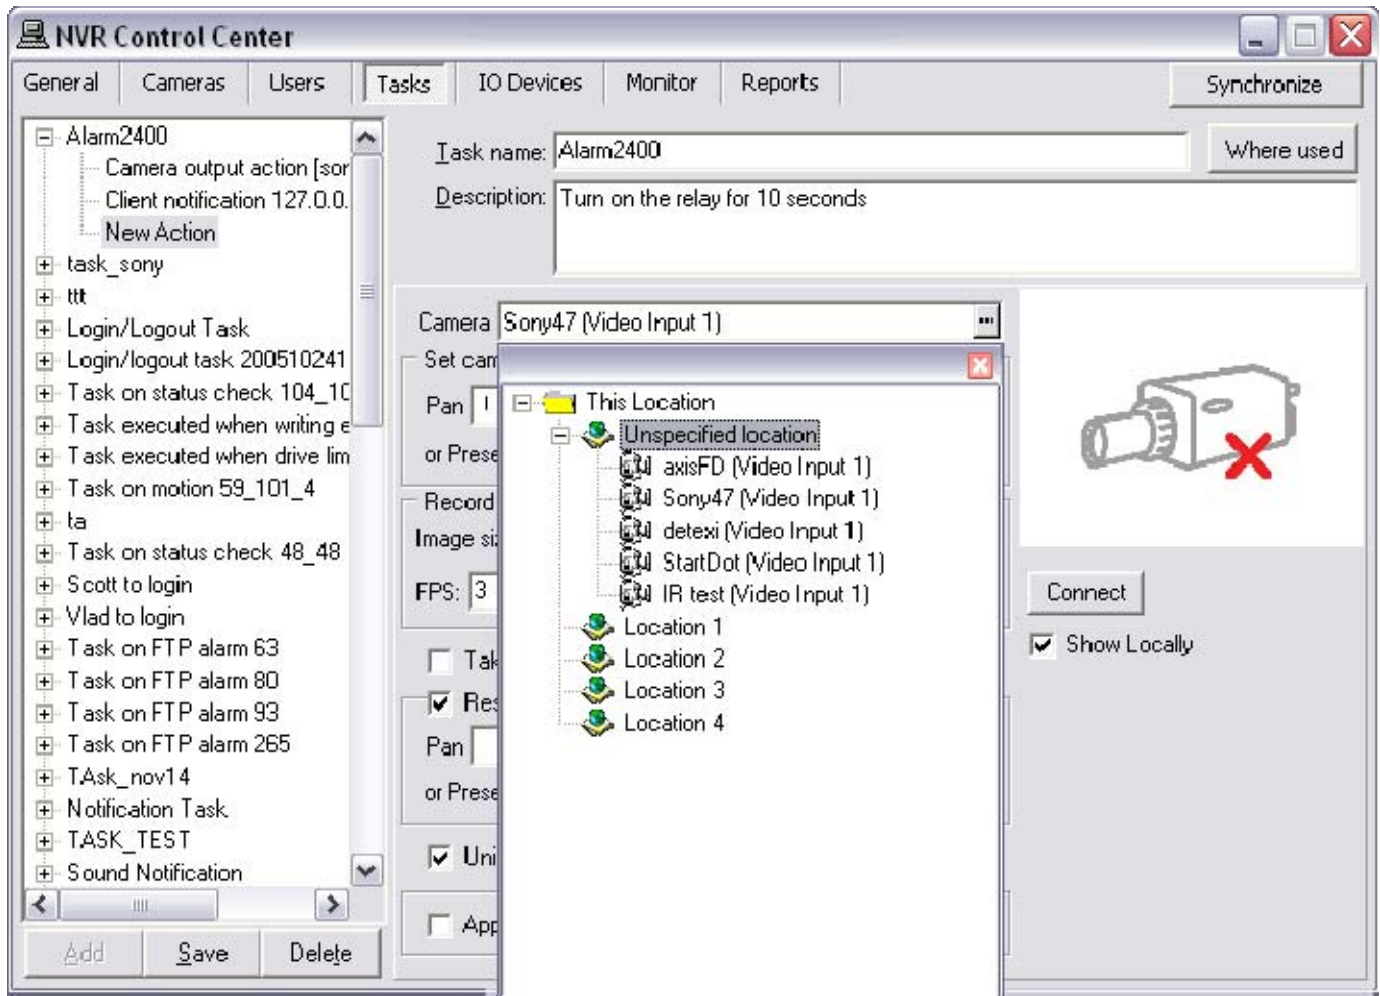

Fig 72. NVR Control Center — Tasks
1. Choose camera to configure from the **Camera** drop-down list (Fig 72).